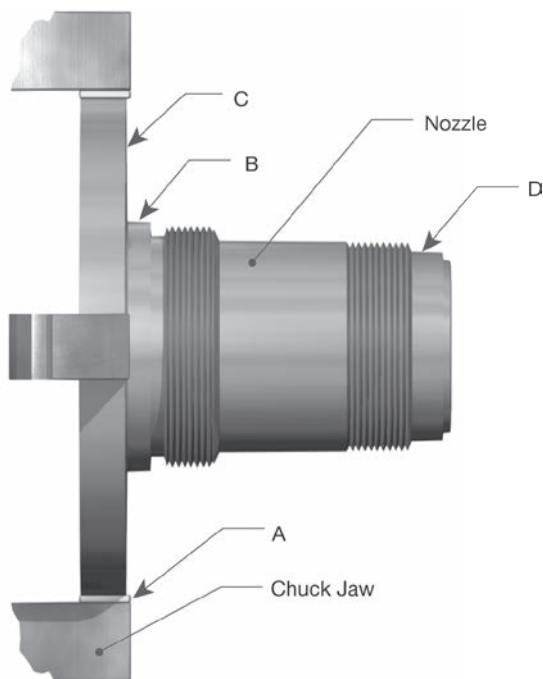

Figure 34: Nozzle Positioned in a Jaw
- a. Grip the nozzle in a four-jaw independent chuck (or collet, if appropriate), using a piece of soft material such as copper or fiber between the jaws and the nozzle as shown at A (Figure 34).
- b. True up the nozzle so that the surfaces marked B and C run true within .001" (0.03 mm) on indicator (Figure 34).